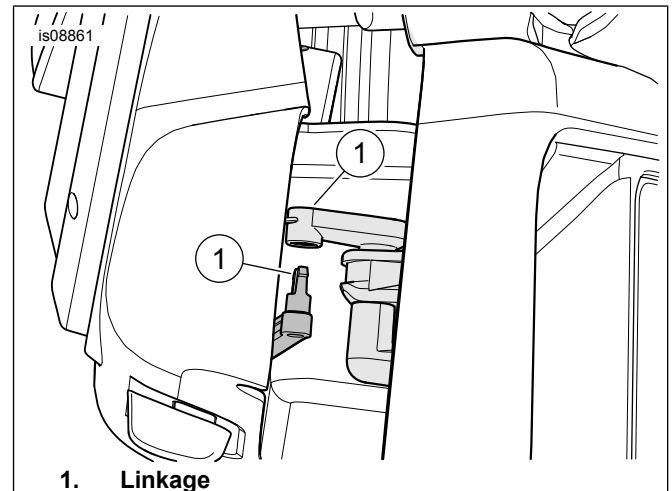

Figure 7. Connect Linkage
7. See Figure 7. Position the enclosure assembly. Connect the linkage.